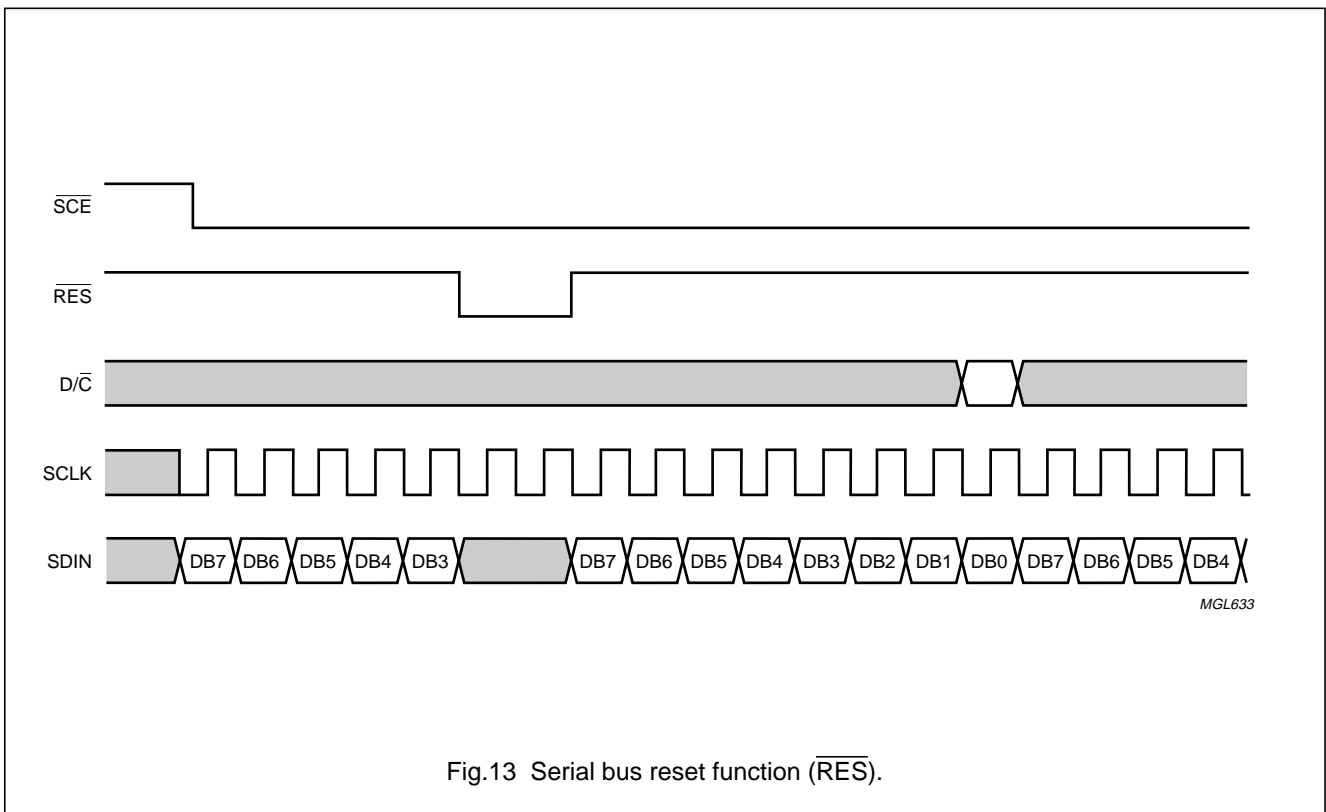

Fig.13 Serial bus reset function ( $\overline{RES}$ ).
- A reset pulse with  $\overline{RES}$  interrupts the transmission. No data is written into the RAM. The registers are cleared. If  $\overline{SCE}$  is LOW after the positive edge of  $\overline{RES}$ , the serial interface is ready to receive bit 7 of a command/data byte (see Fig.13).